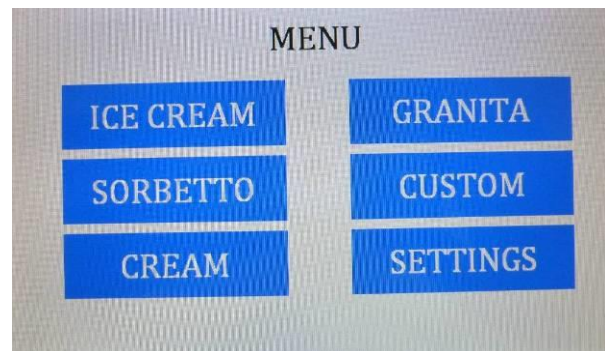

Fig. 25
- When machine is switched on, the main selection menu turns up (fig. 25); you can enter the preparation phase of each product by selecting one of the corresponding key (for example ICE CREAM) and the unit will start working with these pre-set parameters.